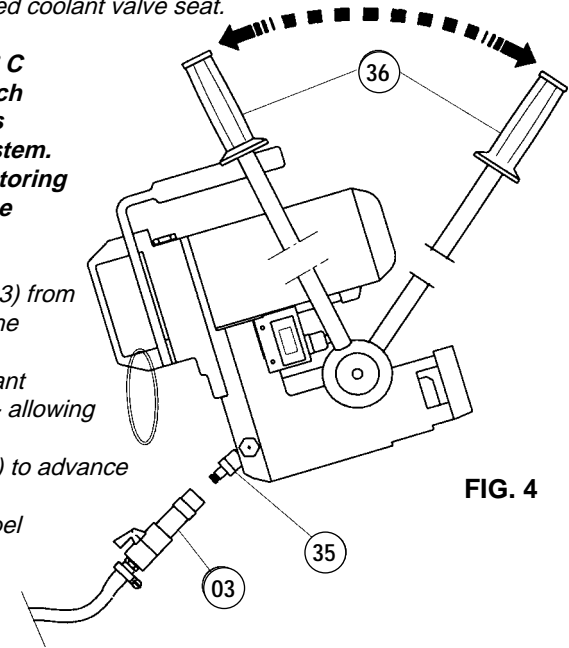

FIG. 4
**Proceed as follows (Fig. 4):**
- Disconnect the quick coupling (03) from the coolant attachment (35) on the drilling machine.
- Operate the advancing lever (36) to advance and retract the drilling spindle.